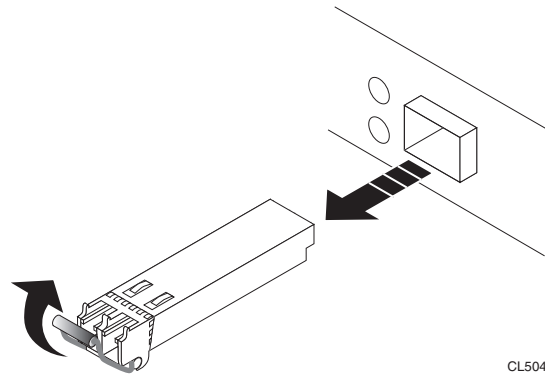

Figure 76 Removing an optical SFP module from a switch port
1. Remove the optical SFP module (Figure 76):